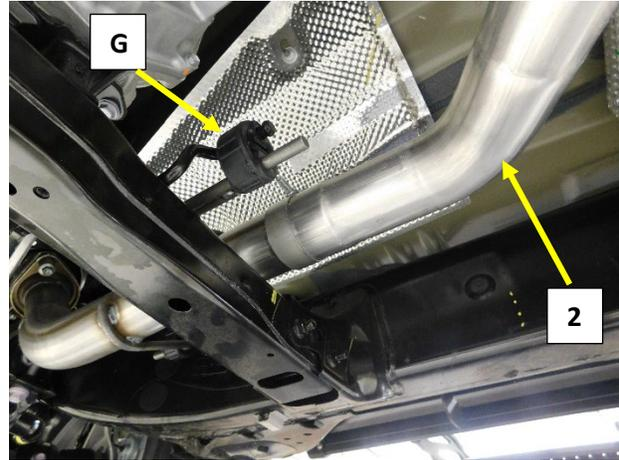

Figure.4
3. Install a 3" band clamp (13) into the inlet (expanded section) of the Muffler inlet pipe (2). Position the clamp with the bolt at the top of the expanded section and the nut facing the transmission. **Fig.4/5**
4. Install the muffler inlet pipe (2) on to the down pipe (1), align the hanger rods with the frame hangers and install the rubber isolators. **Fig.4/5/6**